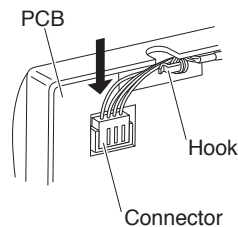
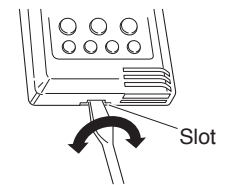

Fig. 4
Fig. 5
- (6) Insert the connector into the PCB of the remote controller unit, and wrap the wire harness around the hook. (Fig. 4)
- (7) Store the excess wire harness inside the junction box, then hook the remote controller unit onto the top of the back plate and install the remote controller unit.
- (8) To remove the remote controller unit after it has been installed, insert a flathead screwdriver into the slot on the bottom of the case and turn it. (Fig. 5)
- (3) Insert the connector into the PCB of the remote controller unit, and wrap the wire harness around the hook. (Fig. 4)
- (4) Use nippers or a similar tool to cut out the slot on the top of the remote controller unit. Pass the wire harness through the slot, then hook the remote controller unit onto the top of the back plate and install the remote controller unit.
- (5) In order to conceal the exposed wiring, use a wire cover (locally purchased) or similar means.